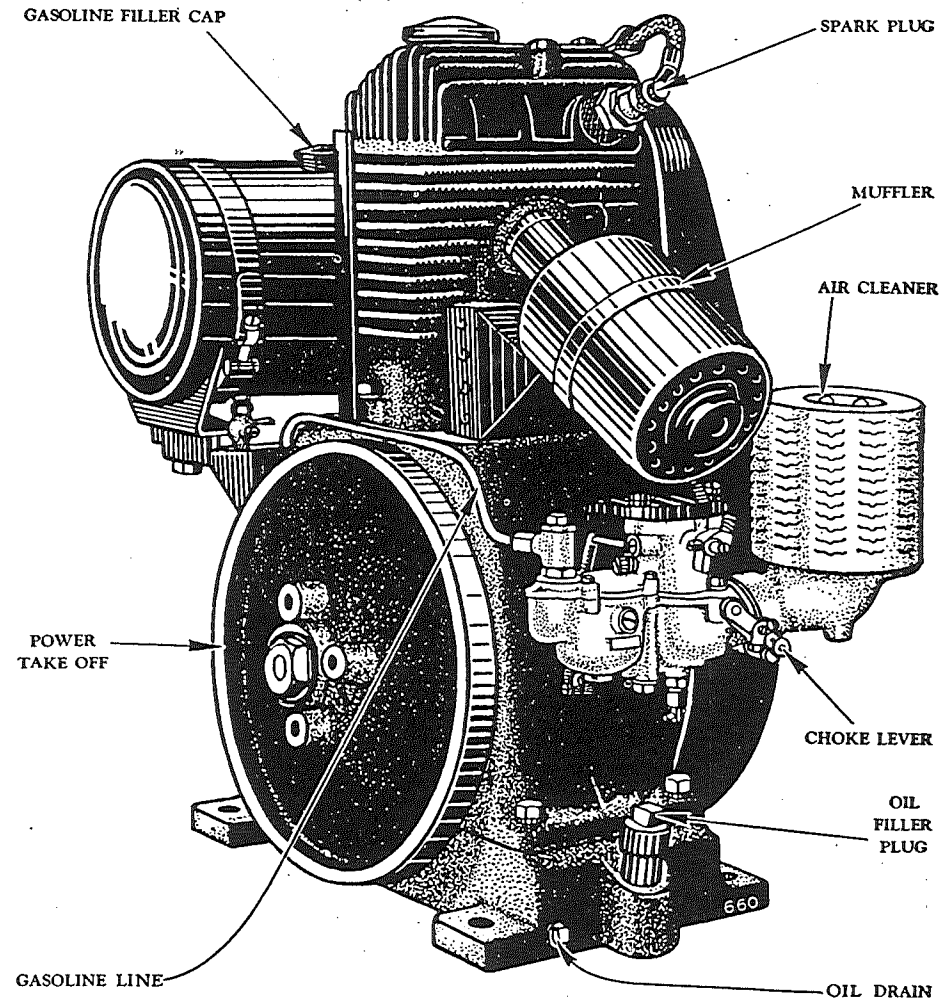

Fig. 1.
14. After each twenty five hours of operation, the old oil must be completely drained from the crankcase by removing either one of the oil drain plugs at the base of the motor. One of these can be seen in the motor illustration of Fig. 1 on page 5. Drain out the oil when the motor is hot, as the oil drains out more quickly and thoroughly. Then replace the plug and refill with fresh oil. We do not recommend flushing out with kerosene.
21. The oil filler opening is in the motor base as shown in the motor illustration of Fig. 1 on page 5. This filler opening may be at either end of base. Remove filler cap and pour in oil until it rises to the level of the filler cap opening. The capacity of the oil reservoir is three and a quarter pints.
22. The gasoline tank is filled by removing the large gasoline tank cap which is shown in Fig. 1 on page 5. The capacity is one gallon, High Test gasoline is recommended and insures easy starting, particularly in cold weather. Be sure that the small vent hole in the gasoline tank cap is not clogged up, for air must enter the tank to allow the gasoline to flow to the carburetor.
24. Hold the choke lever (See Fig. 1 or Fig. 2) in the closed position. (The spring automatically holds the choke open.) This choke lever acts the same as the choke on your automobile. Spin the motor with rope or crank starter (crank starter turns left hand or counter clockwise) and immediately after motor fires, gradually open choke until the motor runs with choke wide open. If motor is